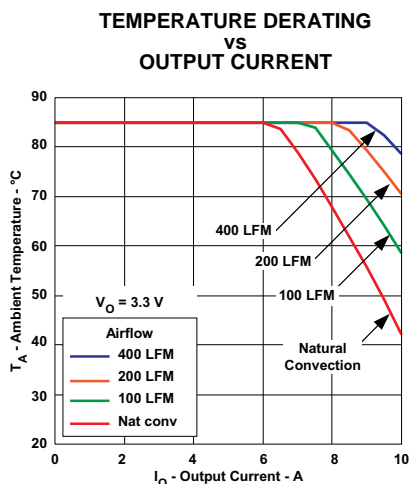
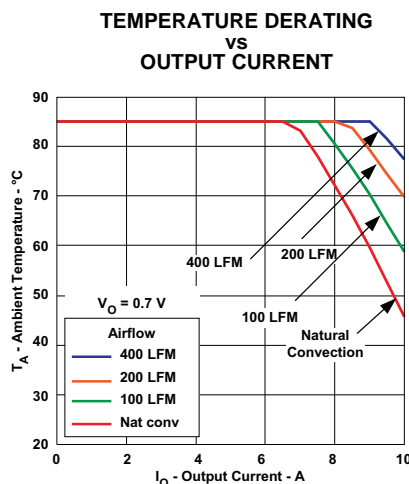

Figure 10.
Figure 11.
- (2) The temperature derating curves represent the conditions at which internal components are at or below the manufacturer's maximum operating temperatures. Derating limits apply to modules soldered directly to a 100 mm × 100 mm double-sided PCB with 1 oz. copper. Applies to Figure 10, Figure 11.